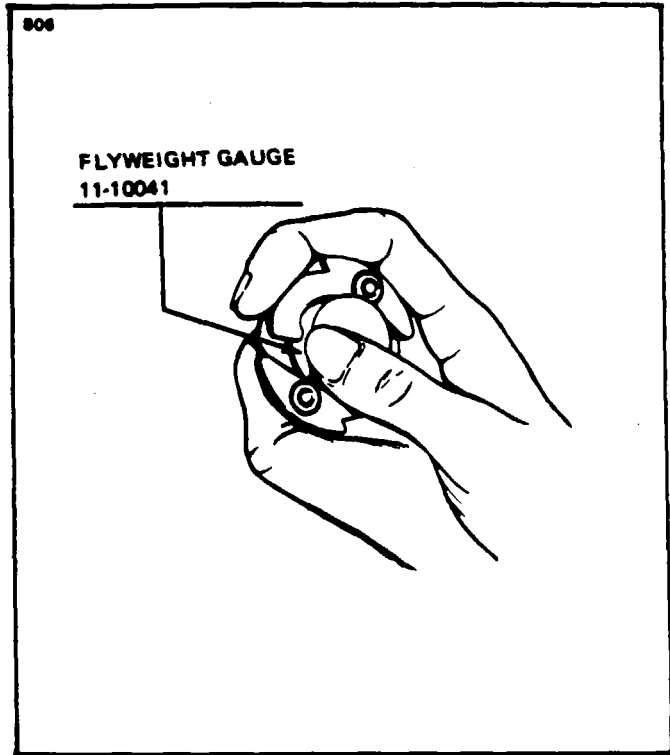

Figure 74-14. Checking Flyweight Radial Wear with Gauge
4. Inspect for axial wear between flyweight and axle using shank of a new No. 35 drill as a gauge. Hold flyweight so the outer radius is in alignment with the rim of the cam flange and try to insert the drill shank between the flange and flyweight as shown in Figure 74-14. Do not force the drill. If the drill can be inserted, replace the cam assembly.
5. Inspect for excess radial wear between the flyweight and axle using the 11-10041 flyweight gauge. Insert the gauge between flyweights and against cam hub as shown in Figure 74-14. If the gauge cannot be inserted easily, remove burr from edges of hub keyway with a small file. Hold the gauge firmly against the hub, at the same time squeezing the flyweights against the gauge. If the inner end of either flyweight heel touches the gauge, replace the cam assembly. If parts are near limits, check clearance between flyweight and gauge with a .003 inch feeler. If flyweight heel is tight on feeler, replace the cam assembly.